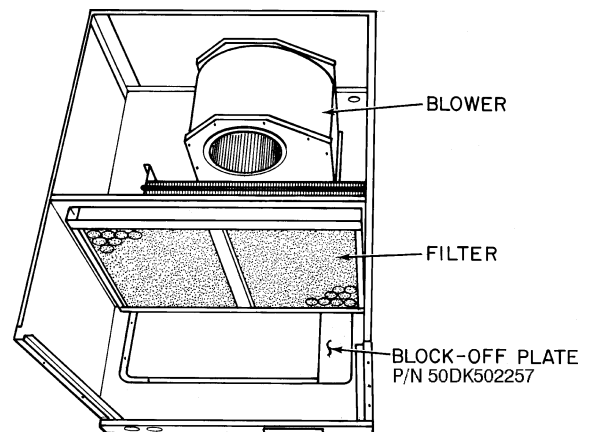

Fig. 24 — Block-Off Plate Location (50TFF012,014 only)
4. On size 012 and 014 units, install vertical discharge block-off plate over duct openings. See Fig. 24.